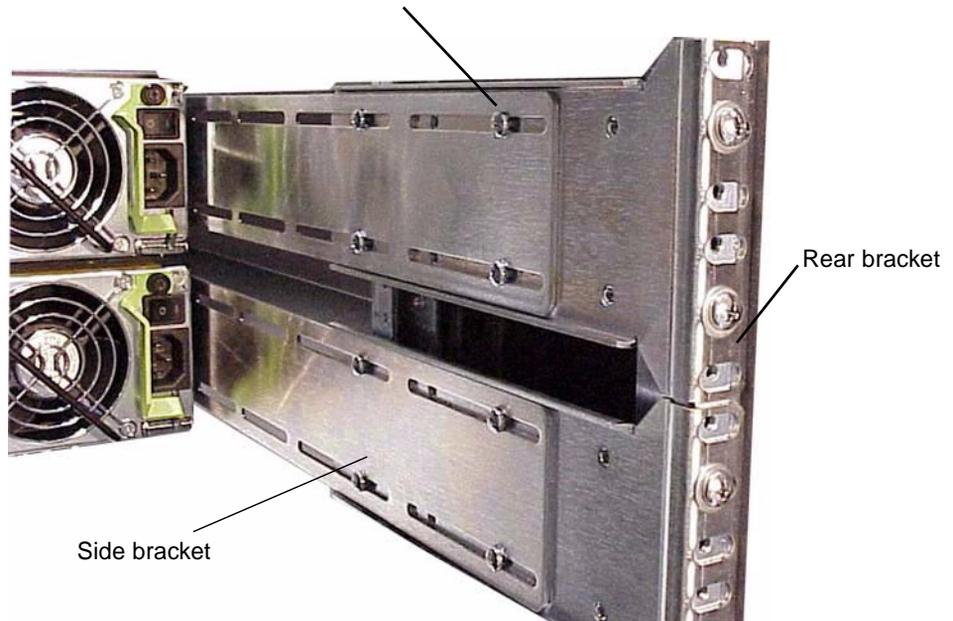

FIGURE 4-4 Rear and Side Brackets Assembled
7. Attach each side bracket to a rear bracket (see FIGURE 4-4):